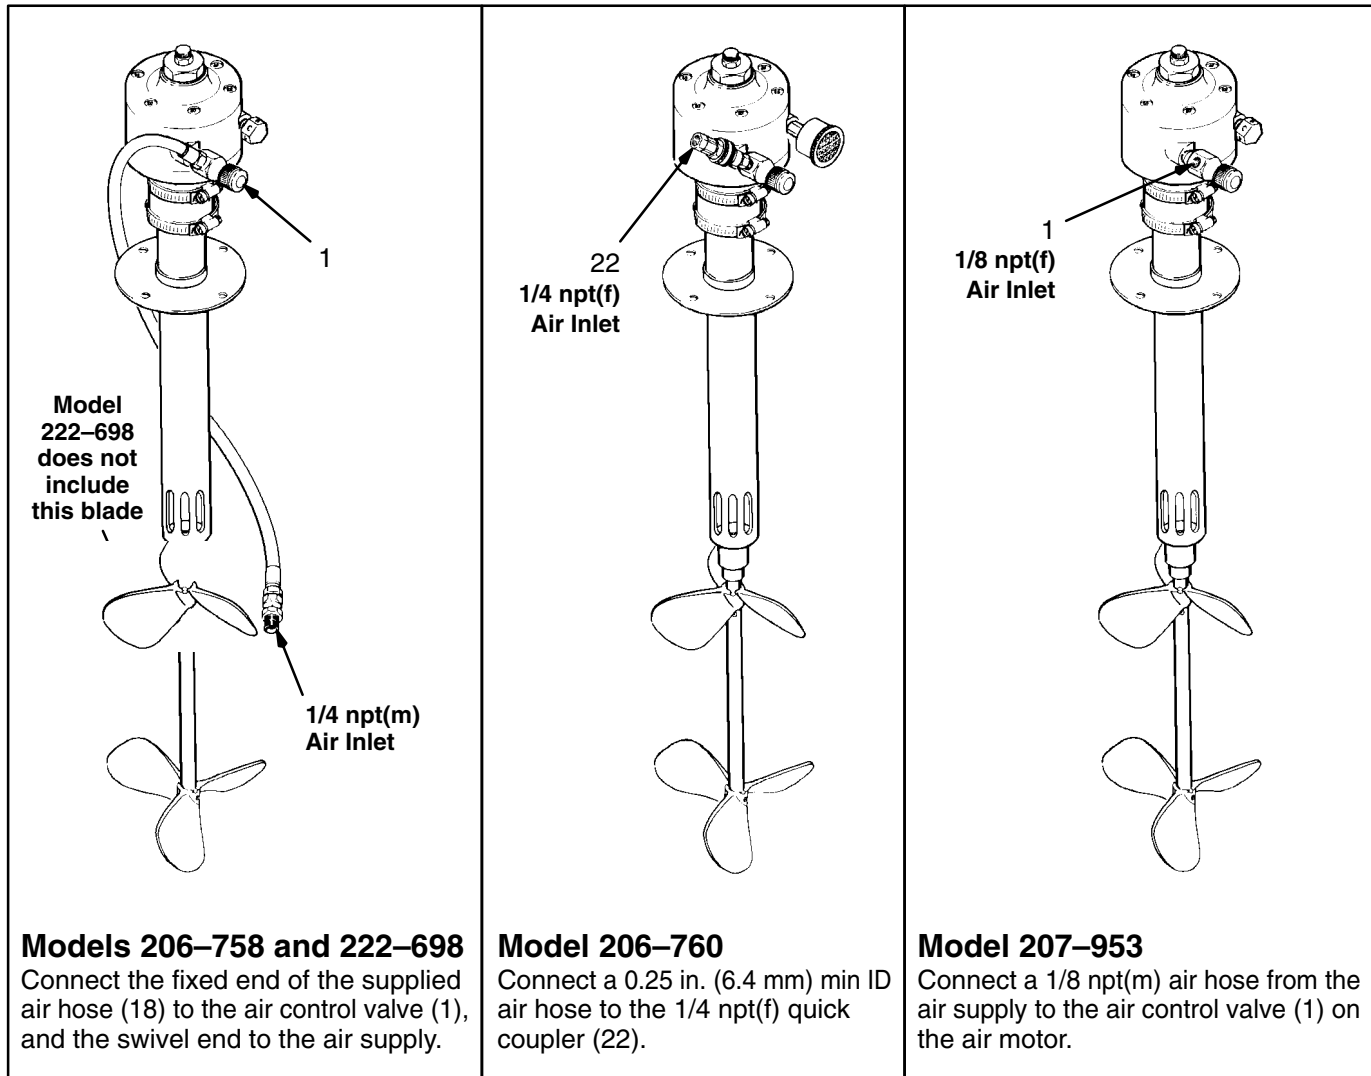

Fig 1
**NOTE:** Refer to the **Dimensional Drawing** and **Mounting Hole Diagram** on page 8. See Fig 1 for air hose connections.
**NOTE:** Reference numbers in parentheses refer to the callouts in the Parts Drawing and Fig 1.